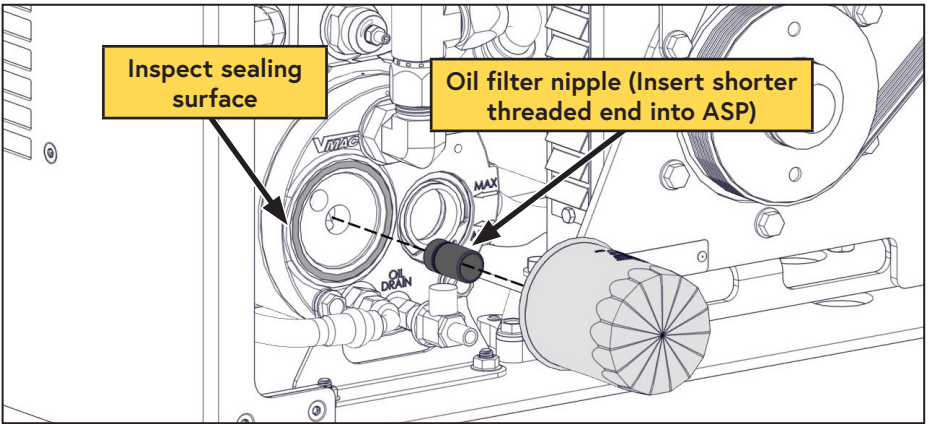

Figure 27 — Compressor oil filter
- *If the nipple came out with the oil filter, remove it from the filter, being careful to avoid damaging the threads (Figure 27).
- *To reinstall the nipple, thoroughly clean the threads and apply Loctite 242 (blue) to the end with the short threads and replace it in the ASP (Figure 27).
- Clean the gasket sealing surface on the front of the ASP and inspect it for damage. The surface must be free of old gasket material, and smooth, to ensure a good seal (Figure 27).